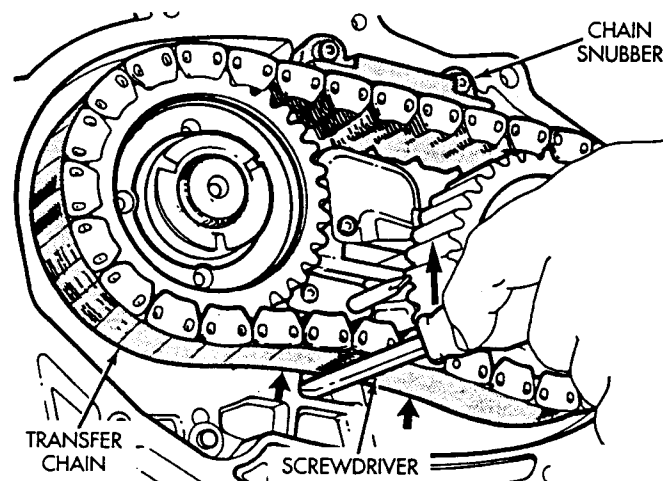

Fig. 3 Screwdriver Placement
- (4) Insert a screwdriver into the 18 mm hole with the screwdriver **BELOW** the chain (Fig. 3). A assistant may be needed to perform this step.